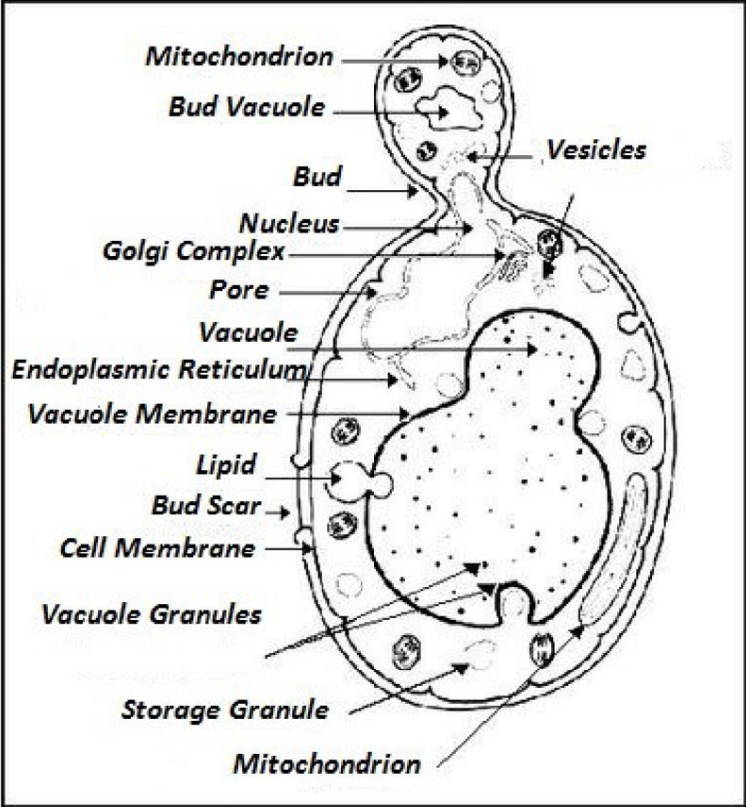

Figure 3 – Eukaryote structure
A eukaryotic cell is more complex in its structure. It has a well-defined nucleus. Its various organelle parts all have a membrane structure around them for protection. Figure 3 illustrates a eukaryotic cell. (3) The individual cell components will be detailed in a later chapter.